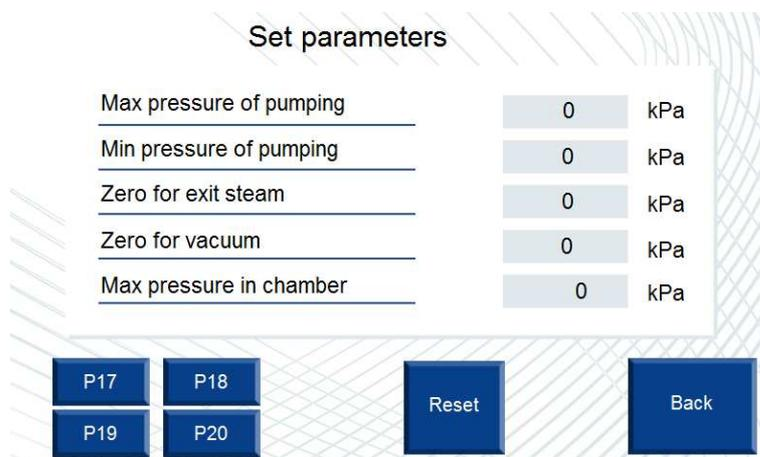

Fig. 19a
**Next** – pressing this button navigates to the next screen (Fig. 19a).